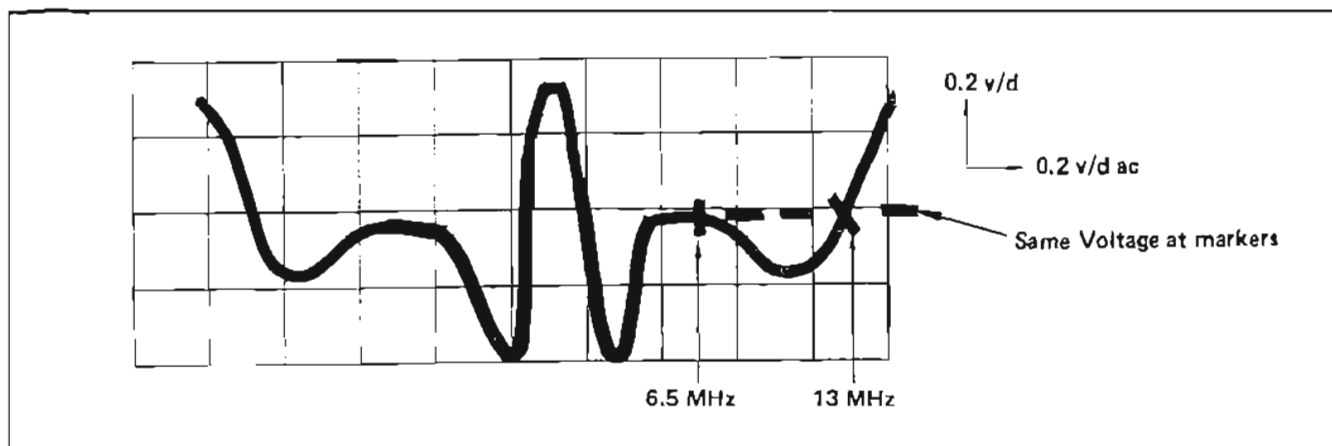

Figure 5-5. A12 DET Waveform
Set signal generator(8) for 400 MHz output at -35 dBm. Connect scope probe to A12 DET test point. Set vertical gain to 0.2 V/div. Adjust A12R7 for the same detector voltage at 6.5 and 13 MHz (see Figure 5-5).